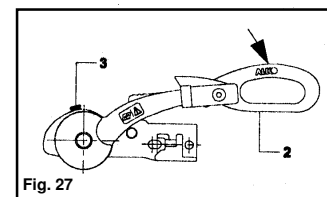

Fig. 27
**Warning:** The coupling is correctly engaged when the green edge of the safety indicator button is visible (Fig. 27/Item 3).
To operate the Stabiliser (once coupled to the towball), simply press the stabiliser lever down as far as it will go (Fig. 27/Item 2).